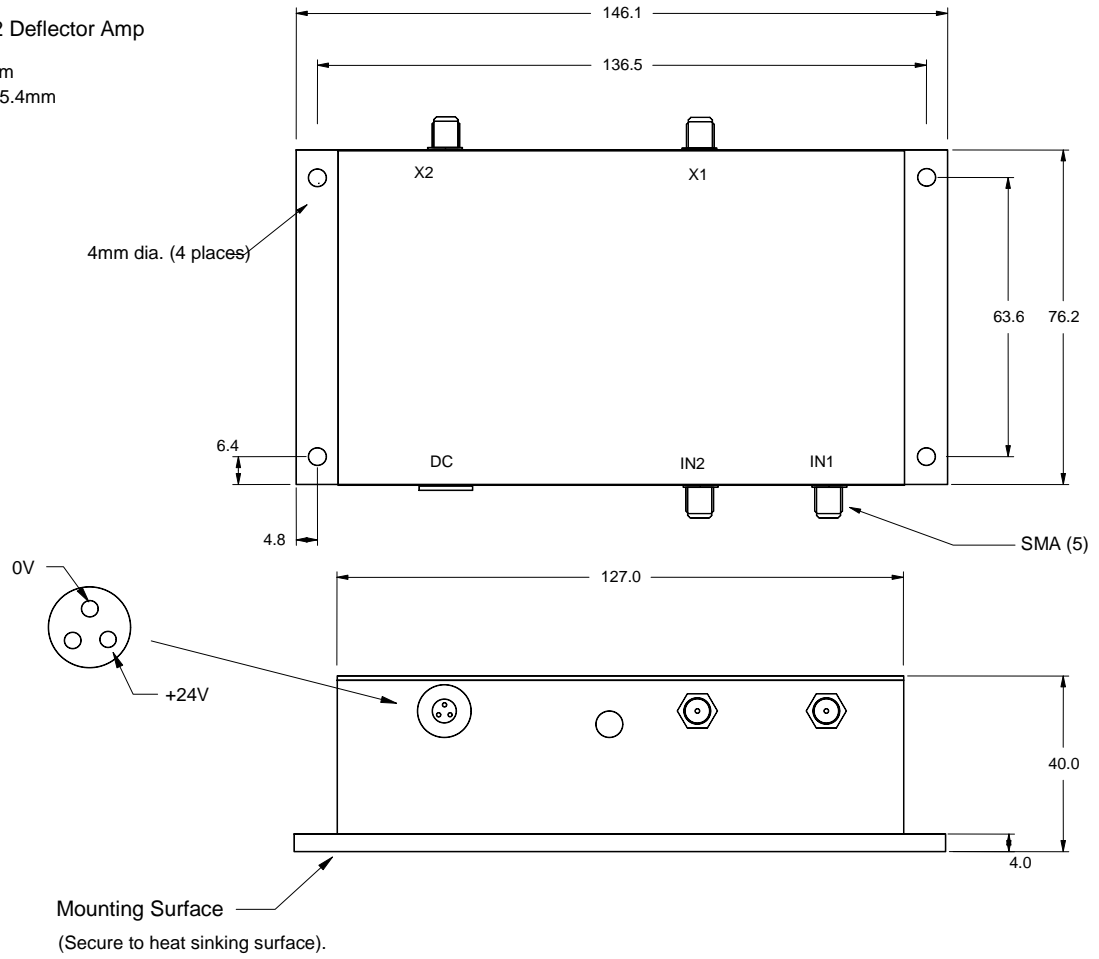

Figure 1, DA104-2 driver
The DA104-2 Modulator/Deflector Driver, figure 1, is a modular, dual independent output RF power amplifier specifically designed to operate with Isomet acousto-optic devices such as the LS110A. The driver accepts two frequency inputs in the order of -6dBm (e.g. from the Isomet iDDS-2 series frequency synthesizer) and provides dual phase delayed RF outputs suitable for beam steered acousto-optic deflectors. A summary of the DA104-2 driver specification is shown in the following table:
- a. Install the D104-2 Driver on a heat sink as shown in Figure 1. Use heat conducting compound between the Driver mounting face and the heat sink.
- b. With no d-c power applied, connect the + 24Vdc line to the 2-pin DC connector as shown in Figure 1. **DO NOT APPLY POWER UNTIL THE LOAD IS CONNECTED.**